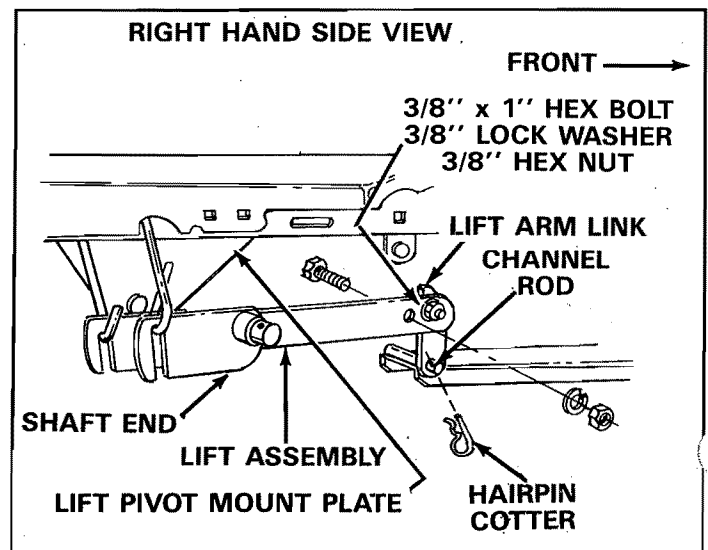

FIGURE 13
- Assemble one 3/8" x 1" hex bolt through second hole from end of long arm. Secure with one 3/8" lock washer and one 3/8" hex nut. This bolt is used as a limit stop for the lift arm link. See figure 13.
- Hook lift assembly arms over both link rods, assemble lift arm link over channel rod and secure with one 1/8" (large) hairpin cotter. See figure 13.